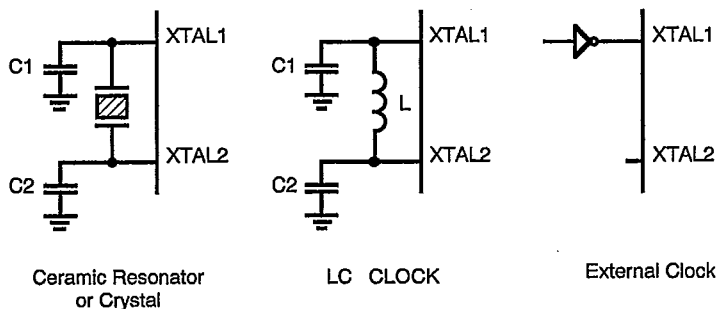

Figure 40. Oscillator Configuration
cut, 1 MHz to 24 MHz max, and series resistance (RS) is less than or equal to 100 Ohms. The crystal should be connected across XTAL1 and XTAL2 using the recommended capacitors (10 pF < CL < 100 pF) from each pin to ground (Figure 40).